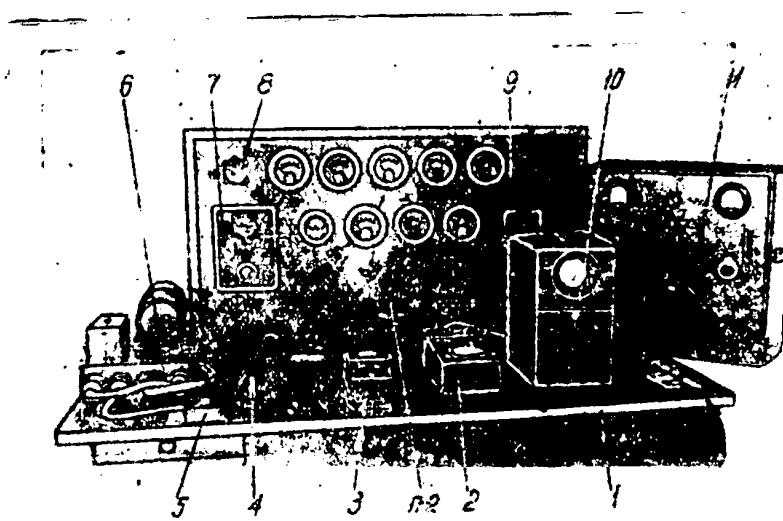

Figure 2: View of the working place for repair, adjustment and checking of the RSB-5 transmitter.
The working place consists of a desk fitted with a supply panel /see Fig.1/ as well as with checking and measuring apparatus. A view of the working place for repair of the transmitter is shown in Fig. 2.
3. Switch ON the panel supply actuating switch P 2 located on the panel /Fig.2/